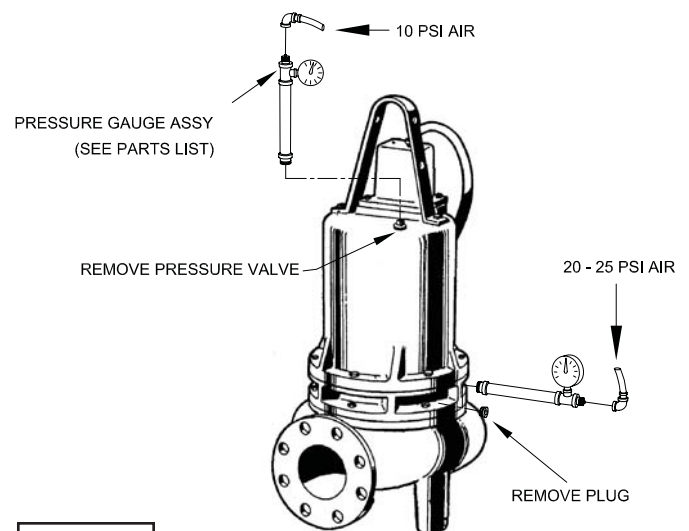

FIGURE 2
**Motor Housing** - Before checking the pump for leaks around the shaft seal, square rings, and cord inlet, the oil level should be full as described in section F-1.3. Remove pressure valve (5) from motor housing (2). Apply pipe sealant to pressure gauge assembly and tighten into pressure valve hole (See Fig. 2). Pressurize motor housing to 10 P.S.I. Use a soap solution around the sealed areas and inspect joints for "air bubbles". If, after five minutes, the pressure is still holding constant, and no "bubbles" are observed, slowly bleed the pressure and remove the gauge assembly. Replace the Pressure valve using a sealant. If the pressure does not hold, then the leak must be located.
**Seal Chamber** - Remove pipe plug (22) from Bearing Bracket (21) and check that seal chamber is full of oil. Apply pipe sealant to pressure gauge assembly and tighten into hole in bearing bracket (21). Pressurize seal chamber to 20-25 PSI and check for leaks as outlined above.